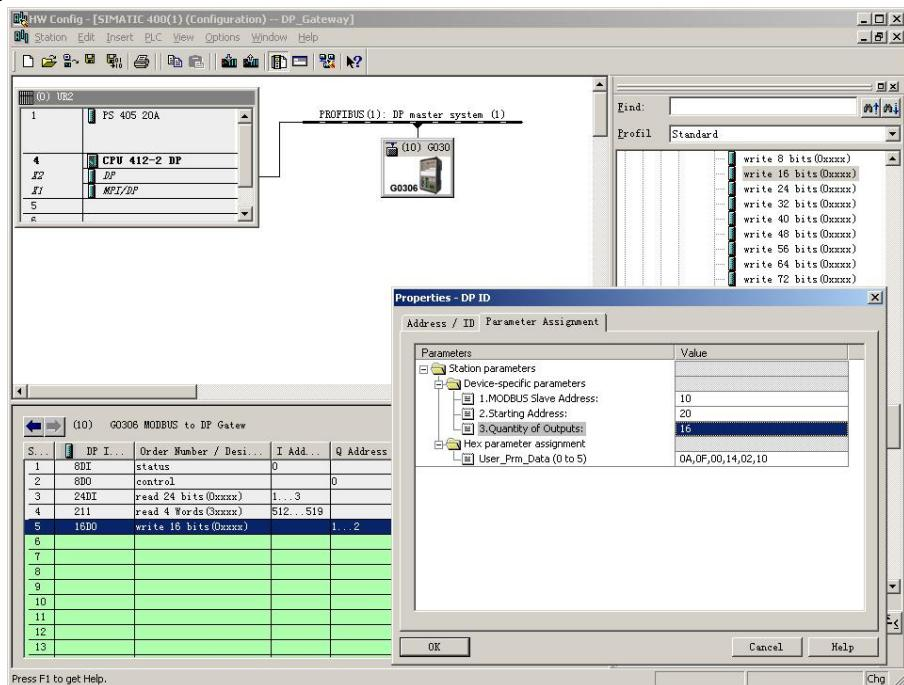

Figure 23 Configure User Parameters of “write 16 bits(0xxxx)” Module
b) Configure user parameters of “write 16 bits(0xxxx)” module, shown in Figure 23:
"1.MODBUS Slave Address: "⇒Type MODBUS slave address 10, shown in Figure 23.
"3.Quantity of Outputs:" ⇒Type coil number 16 to be written⇒"OK", shown in Figure 23.
As shown in Figure 23, QB1, QB2 is PROFIBUS output address of Modbus module assigned by PROFIBUS master station, total 2 bytes, corresponding to 16 continuous coils of Modbus device written by the Modbus module. 2 bytes (16 bits) value in QB1 and QB2 of PROFIBUS master station is written into 0xxxx data area of Modbus device by the Modbus module. Here starting address is 00020; PROFIBUS QB1, QB2 is written into 00021 ~ 00036 of Modbus device.